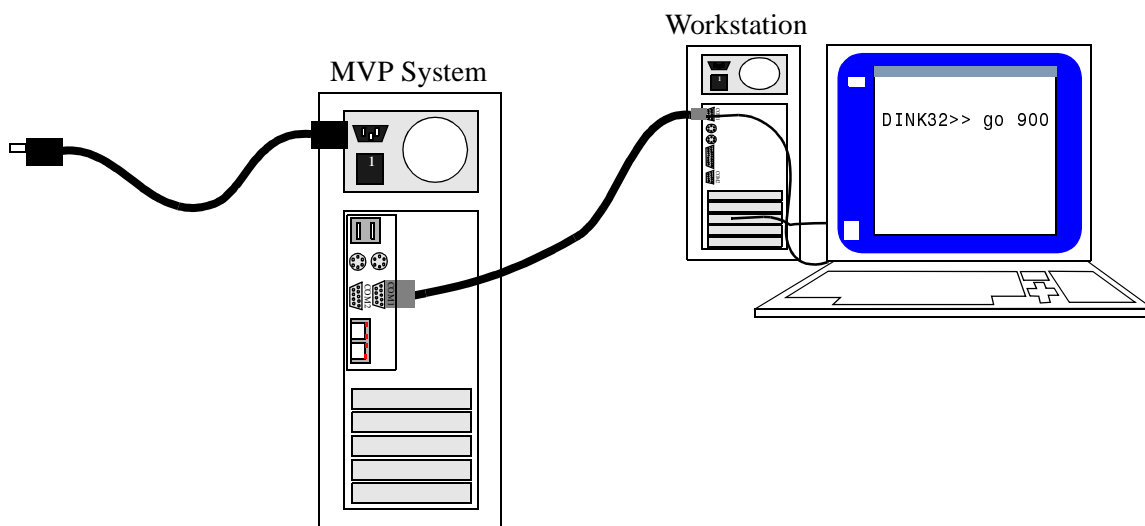

Figure 2. MVP Setup Diagram
Connect the system as shown in Figure 2. Figure 2.
2. Attach a null-modem cable between the MVP COM1 port (top-most of the stacked DB9 connectors, as shown in Figure 2.) to the PC (or workstation) serial port (usually COM1).